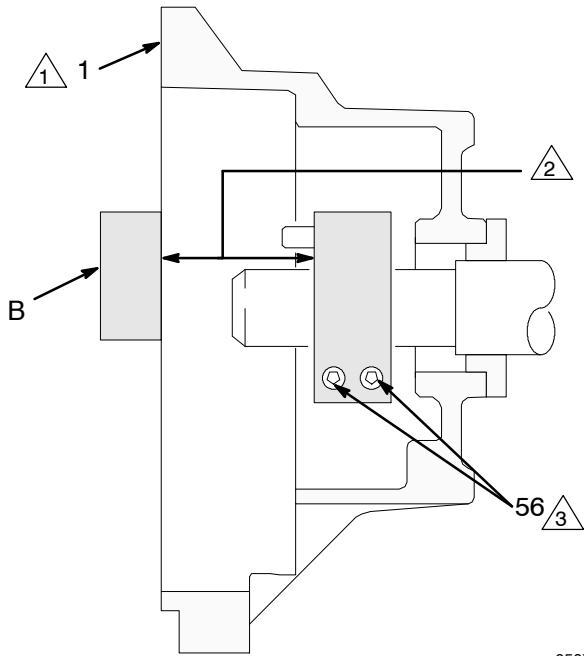

Fig. 24
3. Press the **clamp (55)** onto the engine shaft (A). Maintain the 1.41 inch ± 0.01 (35.8 ± 0.25 mm) dimension shown in Fig. 24.